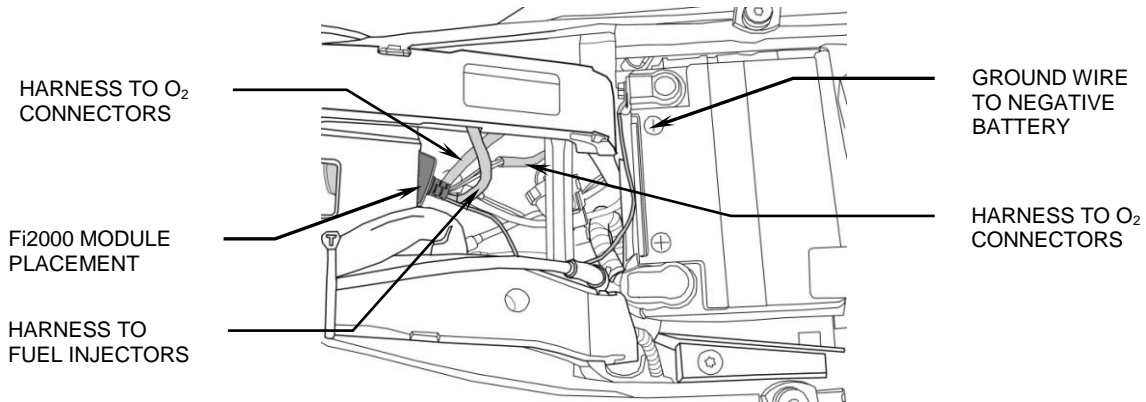

FIGURE 2
3. Lay the Fi2000 module in the open area just behind the fuel tank, Figure 2. By carefully prying the 3 locking tabs, open the right side of the black plastic runner that houses the stock wiring harnesses. Slip the Fi2000 harness into the runner; use the cutout on the left side towards the rear of the runner to feed the harness into it. Route the harness forward about 6 inches and then have it exit at the right side of the runner. Snap the top of the plastic runner back into place.
9. Feed the Fi2000 black wire under the frame cross member and attach it to the **NEGATIVE** post of the battery. Velcro the module onto the flat area of the frame in the open area, in a position where it will sit flat, see Figure 2.